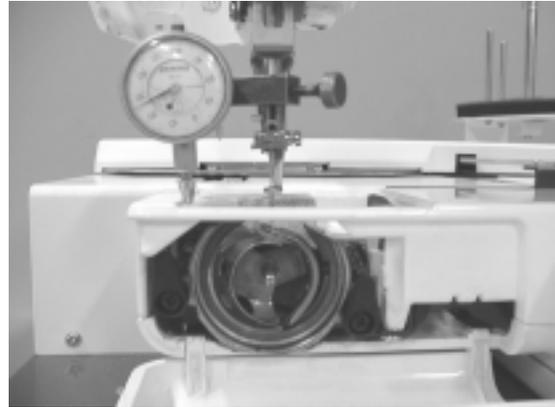

FIGURE 2-14-1
14. Mount a dial gauge to the needle bar, and lift the needle bar until it reaches 2.3mm above the lowest position. Fig.2-14-1.